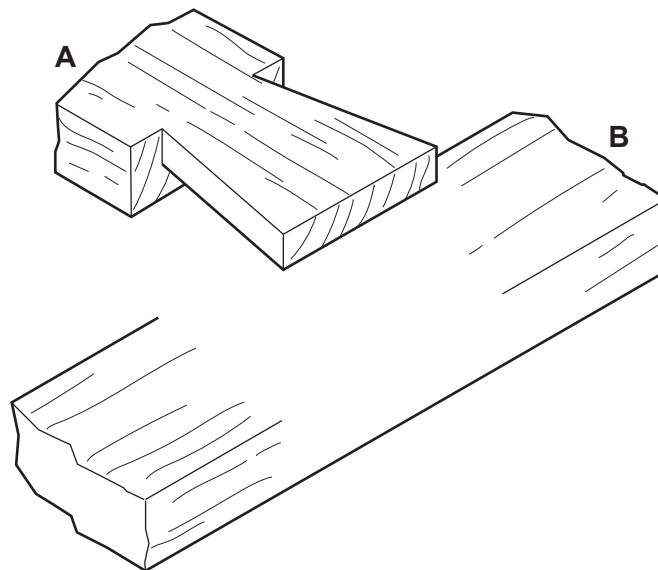

Fig. 4.1
- 4 Fig. 4.1 shows two parts, **A** and **B**, of an incomplete housing joint.
- Draw on part **B** in Fig. 4.1 to show the other part of the housing joint. [3]